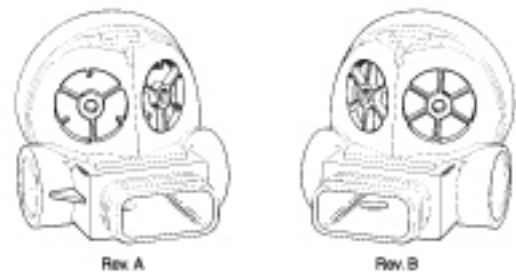

Figure 26 - Rev. A & Rev. B Identification
22. Remove and discard the two exhaust valve diaphragms (7).
23. Closely examine the exhaust valves inside the box bottom, and count the number of spokes in each valve to identify whether the box bottom is a Revision A part (three spokes) or Revision B (six spokes). (See Figure 26).